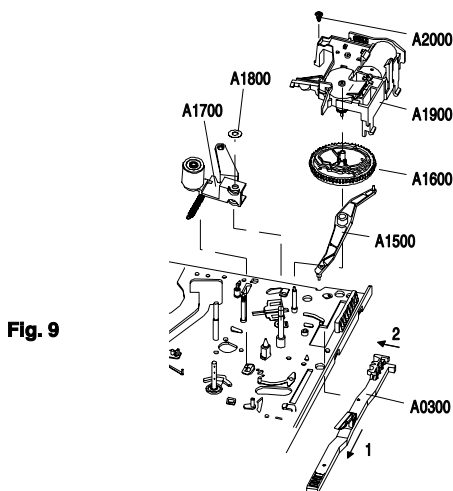

Fig. 9
- Undo screw (Pos. A2000, Fig. 9).
- Remove the loading motor assembly (Pos. A1900, Fig. 9).
- Turn the camwheel (Pos. A1600, Fig. 9) counterclockwise to its extreme position.
- Insert the loading motor assembly (Pos. A1900, Fig. 9) and fasten it with the screw (Pos. A2000).
- Remove the retaining washer (Pos. A1800, Fig. 9).
- Take the pinch roller assembly (A1700, Fig. 9) out.
- Attach the retaining washer (Pos. A1800, Fig. 9).
- Remove the camwheel (Pos. A1600, Fig. 9).
- Remove the lever (Pos. A1500, Fig. 9).
- Push the loading slide (Pos. A0300, Fig. 9) in the direction of arrow 1, on the bottom side of the drive mechanism push it in the direction of arrow 2, and remove it from the bottom.